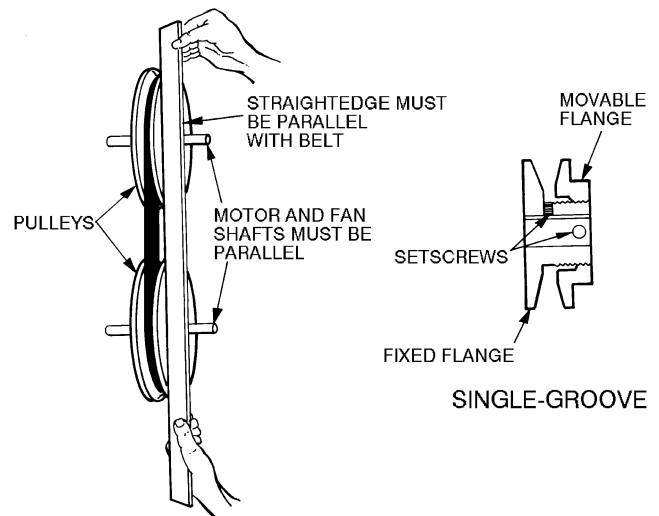

Fig. 25 — Evaporator-Fan Pulley Adjustment
3. Loosen movable pulley flange setscrew (see Fig. 25).